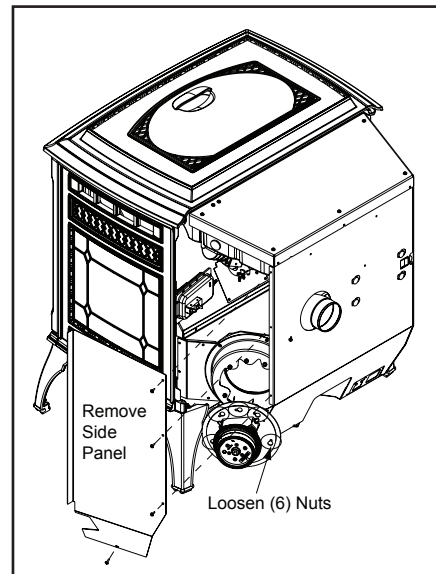

**Figure 25.2**
- d. Use the crevice tool to finish cleaning the heat exchanger fins. It is critical that the 2 exhaust exits at the back of the firebox floor (left and right) be thoroughly cleaned. **Figure 25.2.** There are several ways this can done.